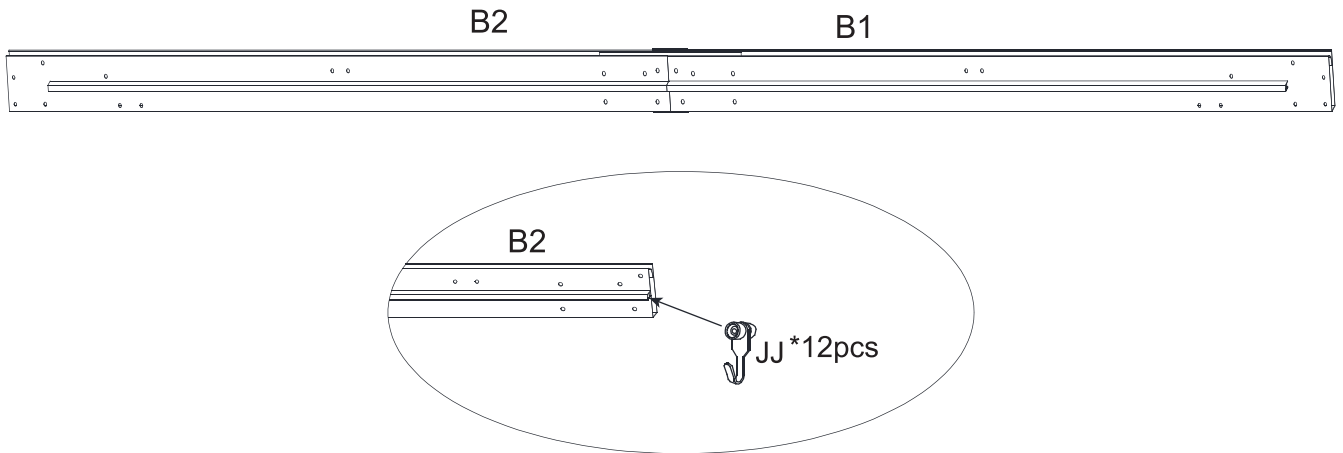

Figure 3.1
3.1. Slide the Hang Wheels (JJ) into the Long Right Lintel (B2). See Figure 3.1.